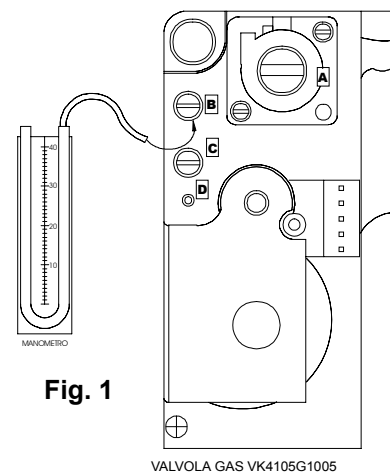

Fig. 1
- remove the aluminium protective cap from screw **A** (fig.1) counter-clockwise;
- once ignited, set the "**P1 MAX. HEAT**" trimmer (fig.2) to the maximum and turn screw **A** (fig.1) on the stabiliser clockwise to increase pressure or counter-clockwise to decrease pressure (see the table below for calibration pressures);